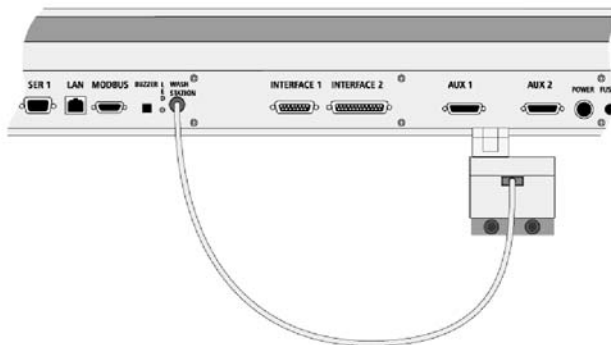

Figure 20 Electrical Connection from DLW Pump Holder to the LC Injector HTC/HTS Board
- 8 Connect the other end of the cable to the “Was Station” connector on the Control board, as shown in Figure 20 on page 70.